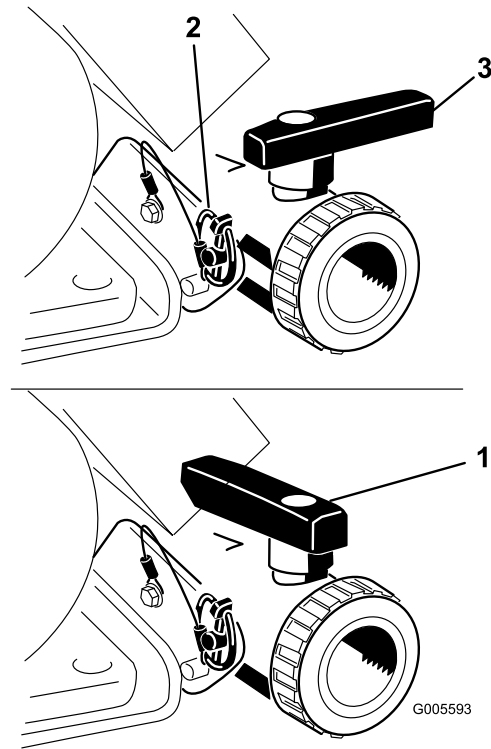

Figure 21
Open the valve to drain any unused material from the tank and dispose of it according to local codes and the material manufacturer's instructions (Figure 21). After draining, remove the lynch pin on the bracket securing the drain valve to the machine and let the valve rest on the ground. This allows any residual material in the line to drain.
3. When the tank has drained completely, install the valve to frame with the lynch pin removed previously and close the drain valve (Figure 21).